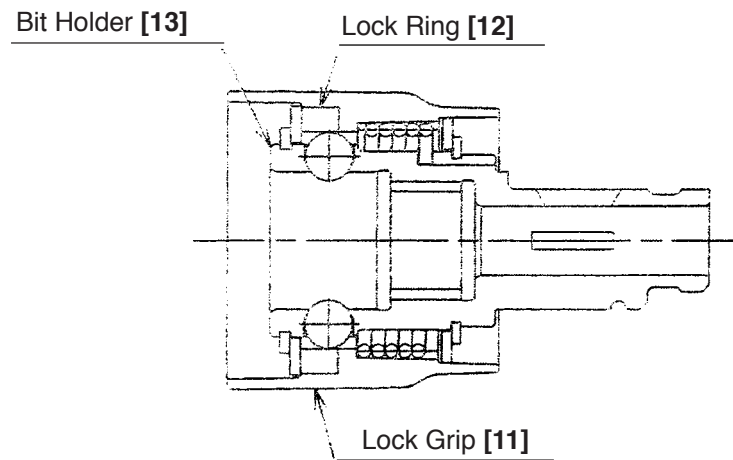
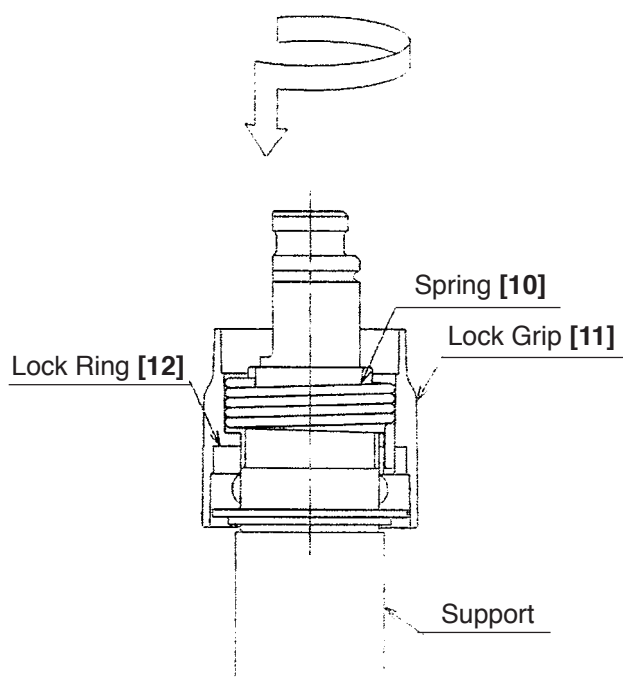

Fig. 19
Fig. 29
Remove the parts around the grip and the Retaining Ring for D25 Shaft [8] as shown in Fig. 19. Then Washer (B) [9], Spring [10], Lock Grip [11], Lock Ring [12], Steel Ball D7.0 [14], Washer (A) [15] and Retaining Ring for D28 Shaft [16] can be removed in this order.
(7) Mounting the bit holder or the chuck holder
The bit holder or the chuck holder can be mounted by the disassembly procedure in reverse. How to mount the Lock Grip [11] is as follows. Mount the Spring [10] and the Lock Ring [12] to the Lock Grip [11] and align the Spring [10] with the notch of the Bit Holder [13]. At this time, place the Bit Holder [13] on a suitably-sized support for easy mounting. Mount Washer (B) [9]. Push in the Lock Grip [11] turning in the arrow direction on the Lock Grip [11] as shown in Fig. 29 and fix it with the Retaining Ring for D25 Shaft [8]. If it is impossible to mount Washer (B) [9] to the fixing position of the Retaining Ring for D25 Shaft [8], remove Washer (B) [9] and check that the Spring [10] is inserted to the proper position. (Fig. 19)